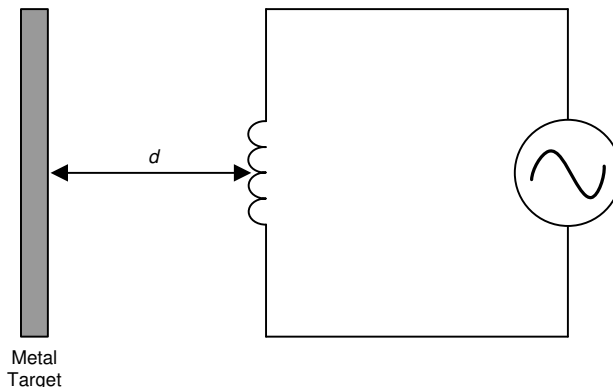
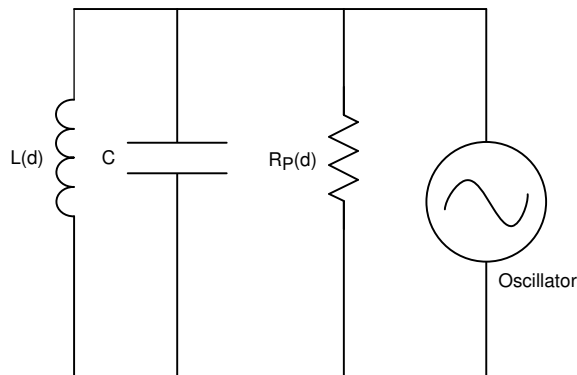

Figure 5. Inductor With a Metal Target
Figure 8. Equivalent Resistance of r_s in Parallel With LC Tank
An alternating current (AC) flowing through a coil generates an AC magnetic field. If a conductive material, such as a metal target, is brought into the vicinity of the coil, this magnetic field induces circulating currents (eddy currents) on the surface of the target. These eddy currents are a function of the distance, size, and composition of the target. These eddy currents then generate a magnetic field that opposes the original field generated by the coil. This mechanism is best compared to a transformer, where the coil is the primary core and the eddy current is the secondary core. The inductive coupling between both cores depends on distance and shape. Hence the resistance and inductance of the secondary core (eddy current), shows up as a distant dependent resistive and inductive component on the primary side (coil). Figure 5 through Figure 8 show a simplified circuit model.
The LDC1001-Q1 device does not directly measure the series resistance. Instead, the device measures the equivalent parallel resonance impedance R_p (see Figure 8). This representation is equivalent to the representation shown in Figure 8, where the parallel resonance impedance $R_p(d)$ is given by Equation 1.